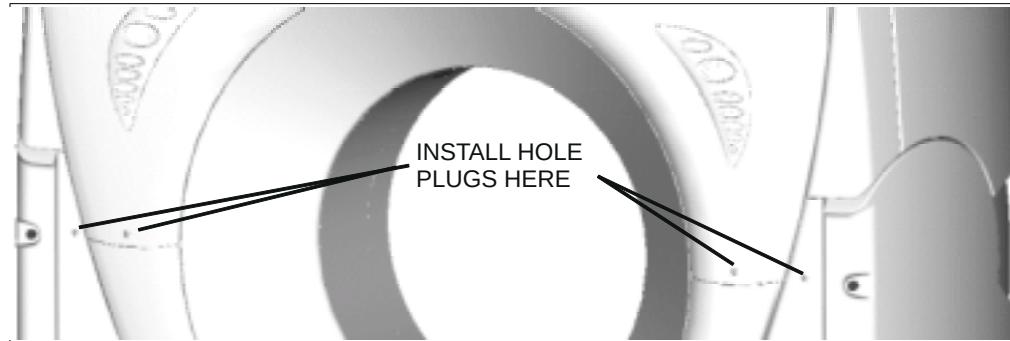

FIGURE 18 FRONT HOLE PLUG INSTALLATION
1. Install the Hole Plugs (p/n T39A-1013) at the four locations shown in Figure 18.